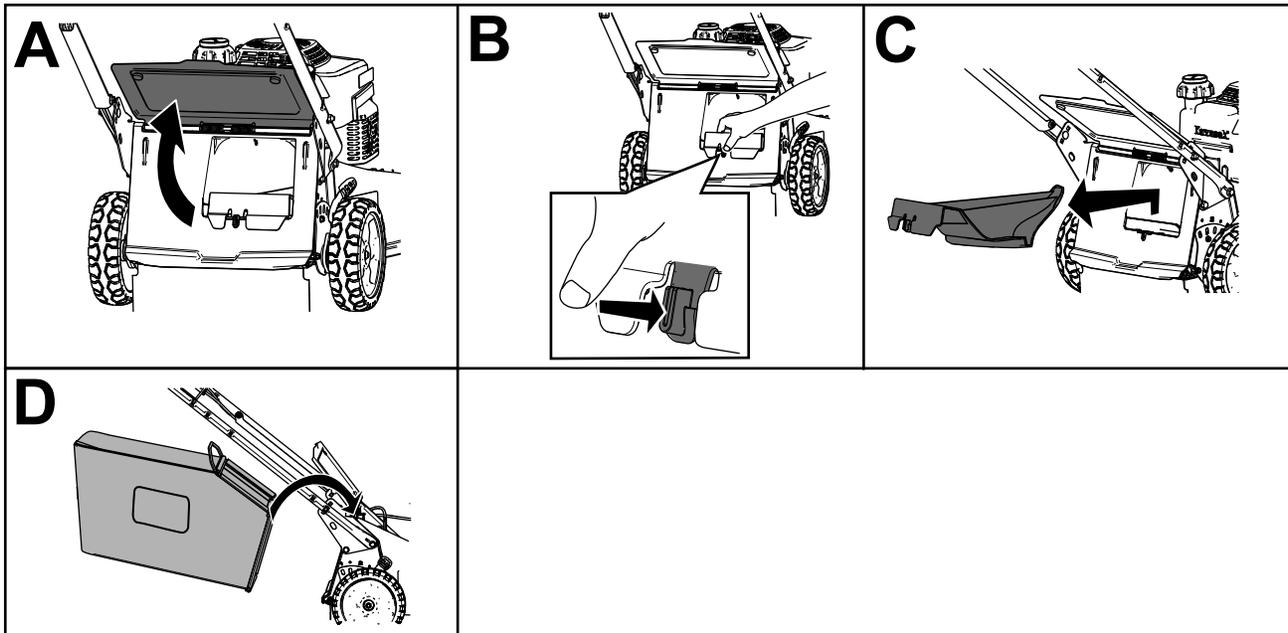

Figure 19
2. Raise and hold up the rear deflector (A of Figure 19).
3. Remove the rear-discharge plug by pushing in the latch with your thumb and pulling the plug out from the machine (B and C of Figure 19).
4. Install the bag-rod ends into the notches at the base of the handle, and rock the bag back and forth to ensure that the bag-rod ends are seated at the bottom of both notches (D of Figure 19).